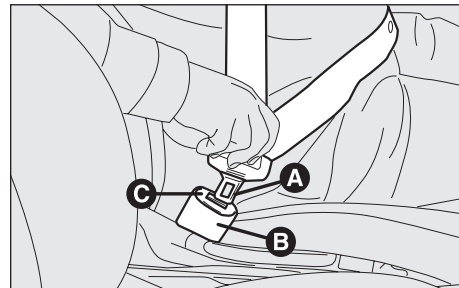

fig. 41
Take hold the tongue (A-fig. 41) and insert it into the buckle (B), until hearing the locking click.